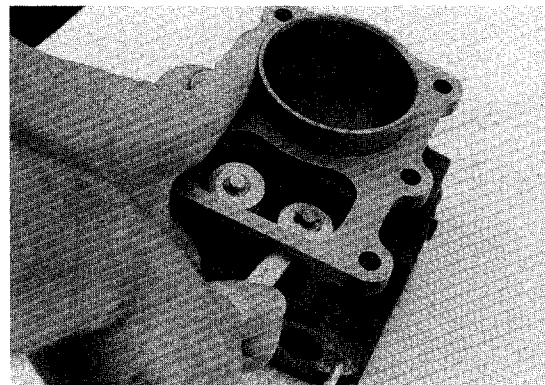

Figure 6-15
2. Remove collet (56) (**Figure 6-2**) from valve by depressing valve spring with wrench against cylinder (**Figure 6-15**).
3. Lift out valve spring (48) and valve (50 or 55). Repeat same procedure for other valve.